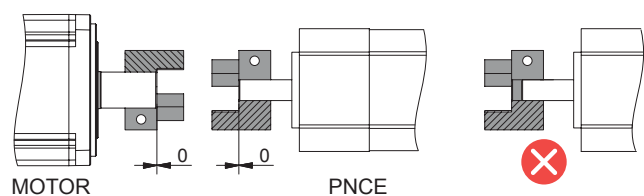

Figure 17: Coupling hubs and journals alignment.
STEP 2: Place the coupling hub **1 6** on the drive journal of the PNCE. Ensure that the coupling hub **1 6** and the drive journal of the PNCE are correctly aligned, see Figure 17. Tighten the coupling hub screw **1 6** with the coupling tightening torque.
Ensure that the coupling hub **2 7** and the motor journal are correctly aligned, see Figure 17.